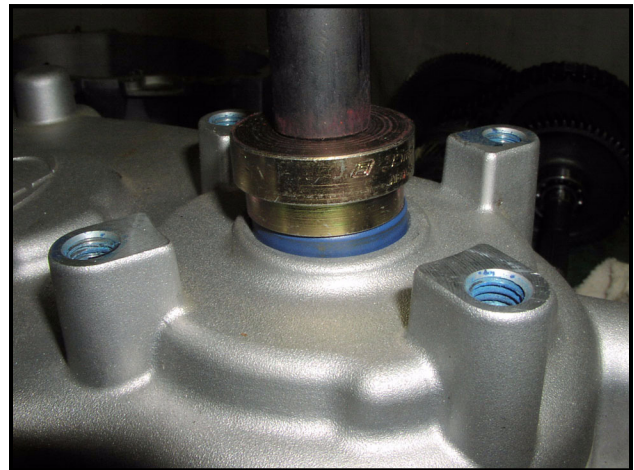

Figure 8-46 Install Shaft Seals in Case
2. Position seals with lips to the inside of the case and gently drive the seals flush with the outside of the case using a seal installation tool, socket or thick wall tube slightly smaller in diameter than the seal (**Figure 8-46, Page 8-15**). See following **NOTE**.